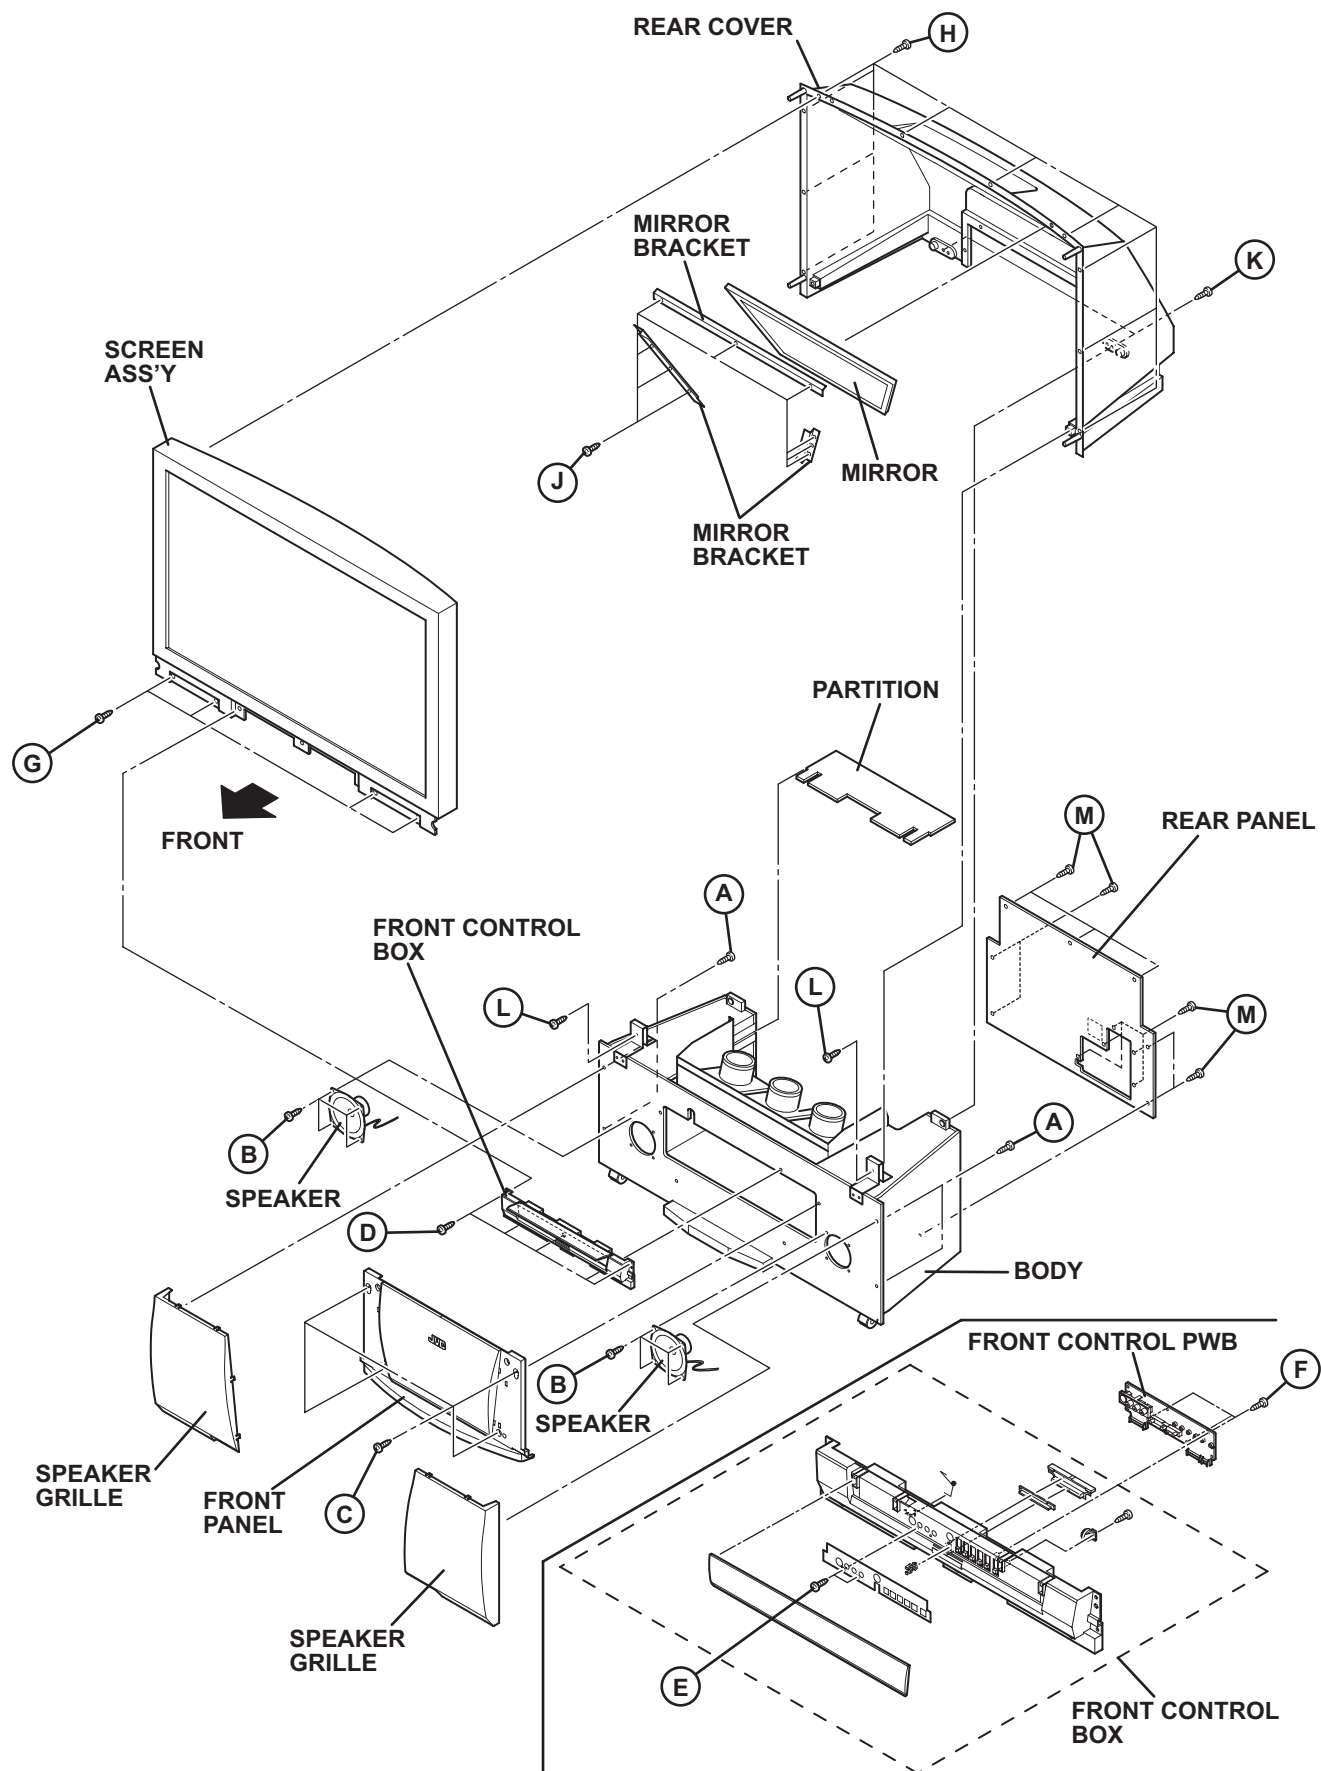

Fig.1
- (1) Remove 5 screws **[D]**.
- (2) Remove the FRONT CONTROL BOX.
3.1.5 REMOVING THE FRONT CONTROL PWB (Fig.1)
3.1.6 REMOVING THE SCREEN ASS'Y (Fig.1)
3.1.7 REMOVING THE MIRROR (Fig.1)
3.1.8 REMOVING THE REAR COVER (Fig.1)
3.1.9 REMOVING THE REAR PANEL (Fig.1)
- (1) Remove 12 screws [M].
- (2) Remove the REAR PANEL.
3.1.10 REMOVING THE PARTITION (Fig.1)